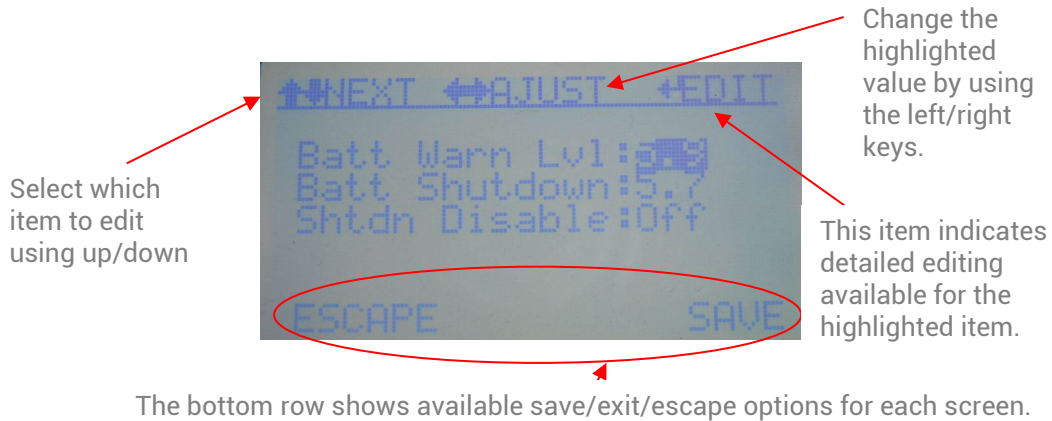

Figure 5.3
- D. Normal data entry – Most data entry can be accomplished by simple use of the LEFT/RIGHT keys to select/change values as shown in figure 5.3
Some data items require detailed editing as shown in figure 5.3 When the 'EDIT' item appears on the top row for a highlighted value the operator can either use the LEFT/RIGHT to change the value or use the ENTER key to enter the value directly – see Detailed data entry below.